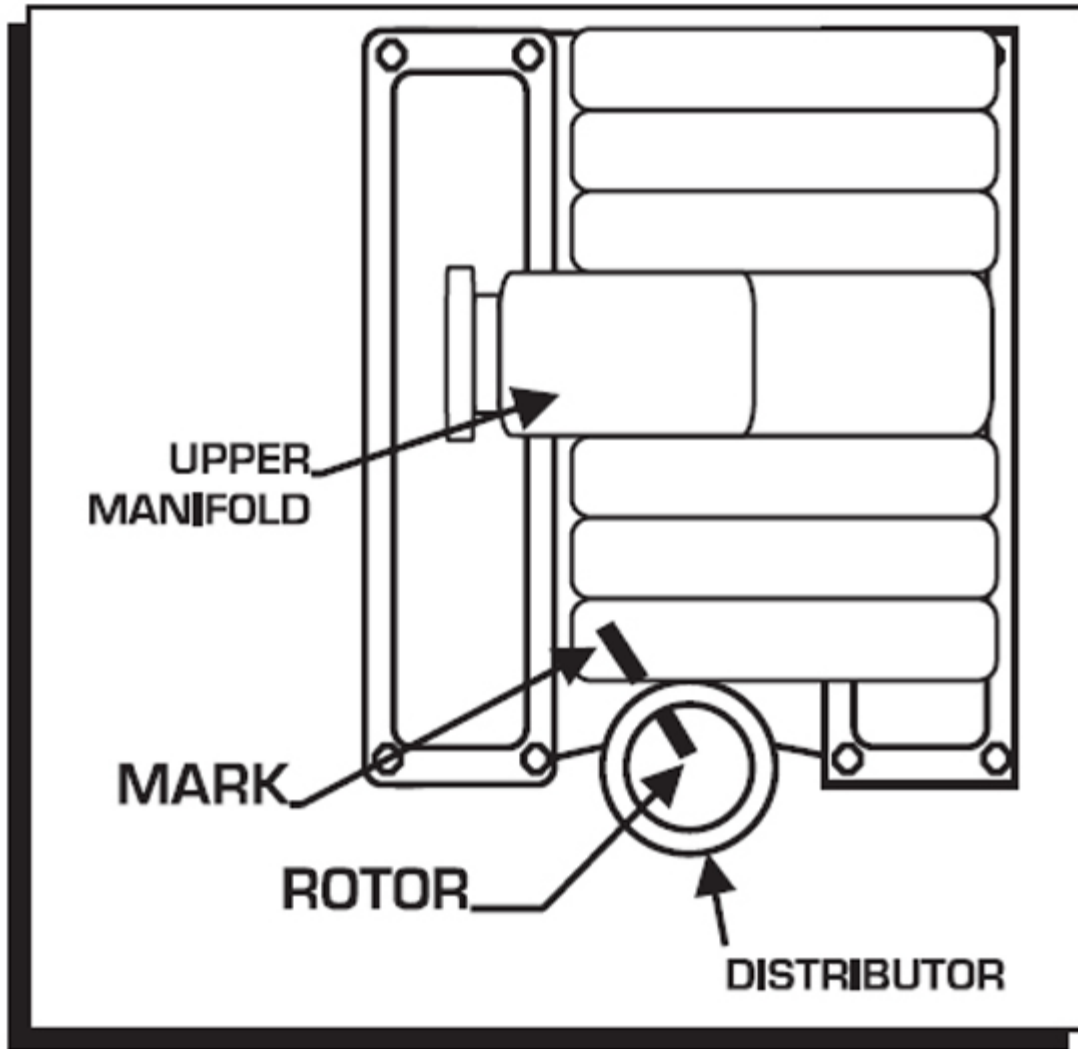

Figure 1 Marking the Distributor Location.
2. With the cap off, turn the engine over until the rotor is aimed at a fixed point on the engine or firewall. Note this position by making a mark (Figure 1).